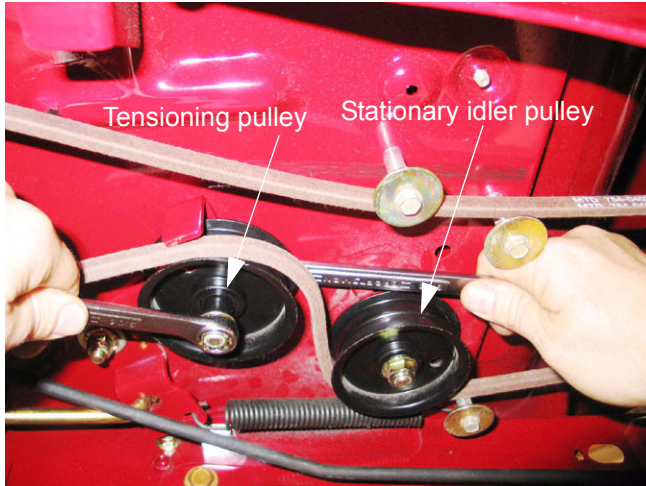

Figure 8.6
- 8.6. Loosen, but do not remove the nut that secures the drive belt tensioning pulley to the tensioner bracket using two 9/16" wrenches. See Figure 8.6.